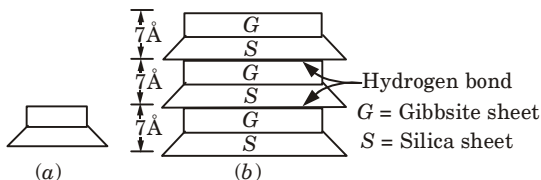

Fig. 6. Structure of kaolinite mineral.
2. Its basic structural unit consists of gibbsite sheet (G) with aluminium atoms at the centre.
3. It is joined to silica sheet (S) through the unbalanced oxygen atoms at the apexes of the silica sheet.
5. The basic structural unit of kaolinite mineral is symbolized as shown in Fig. 6(a).